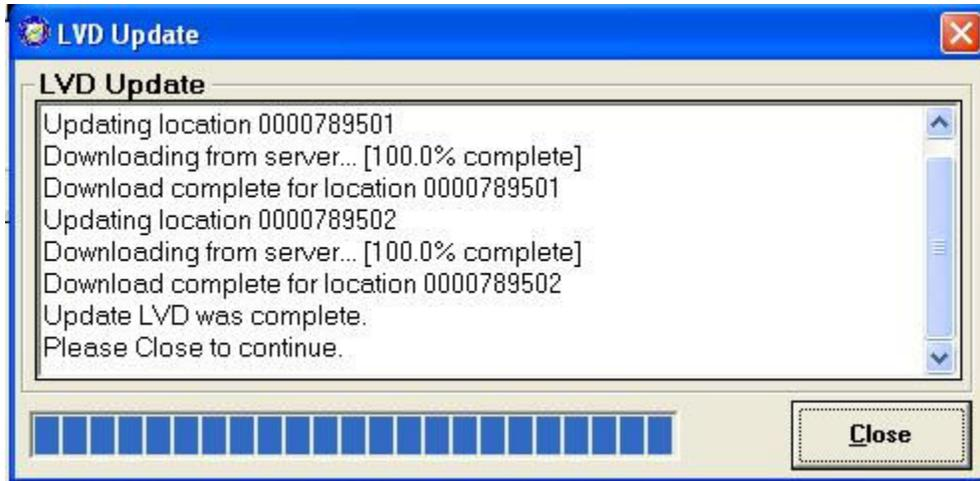

Figure 6.10.13
1. Select **'Tools', 'Check Host For', 'LVD Verification Records'**. The **'Process LVD Update Information'** window opens (Figure 6.10.13).